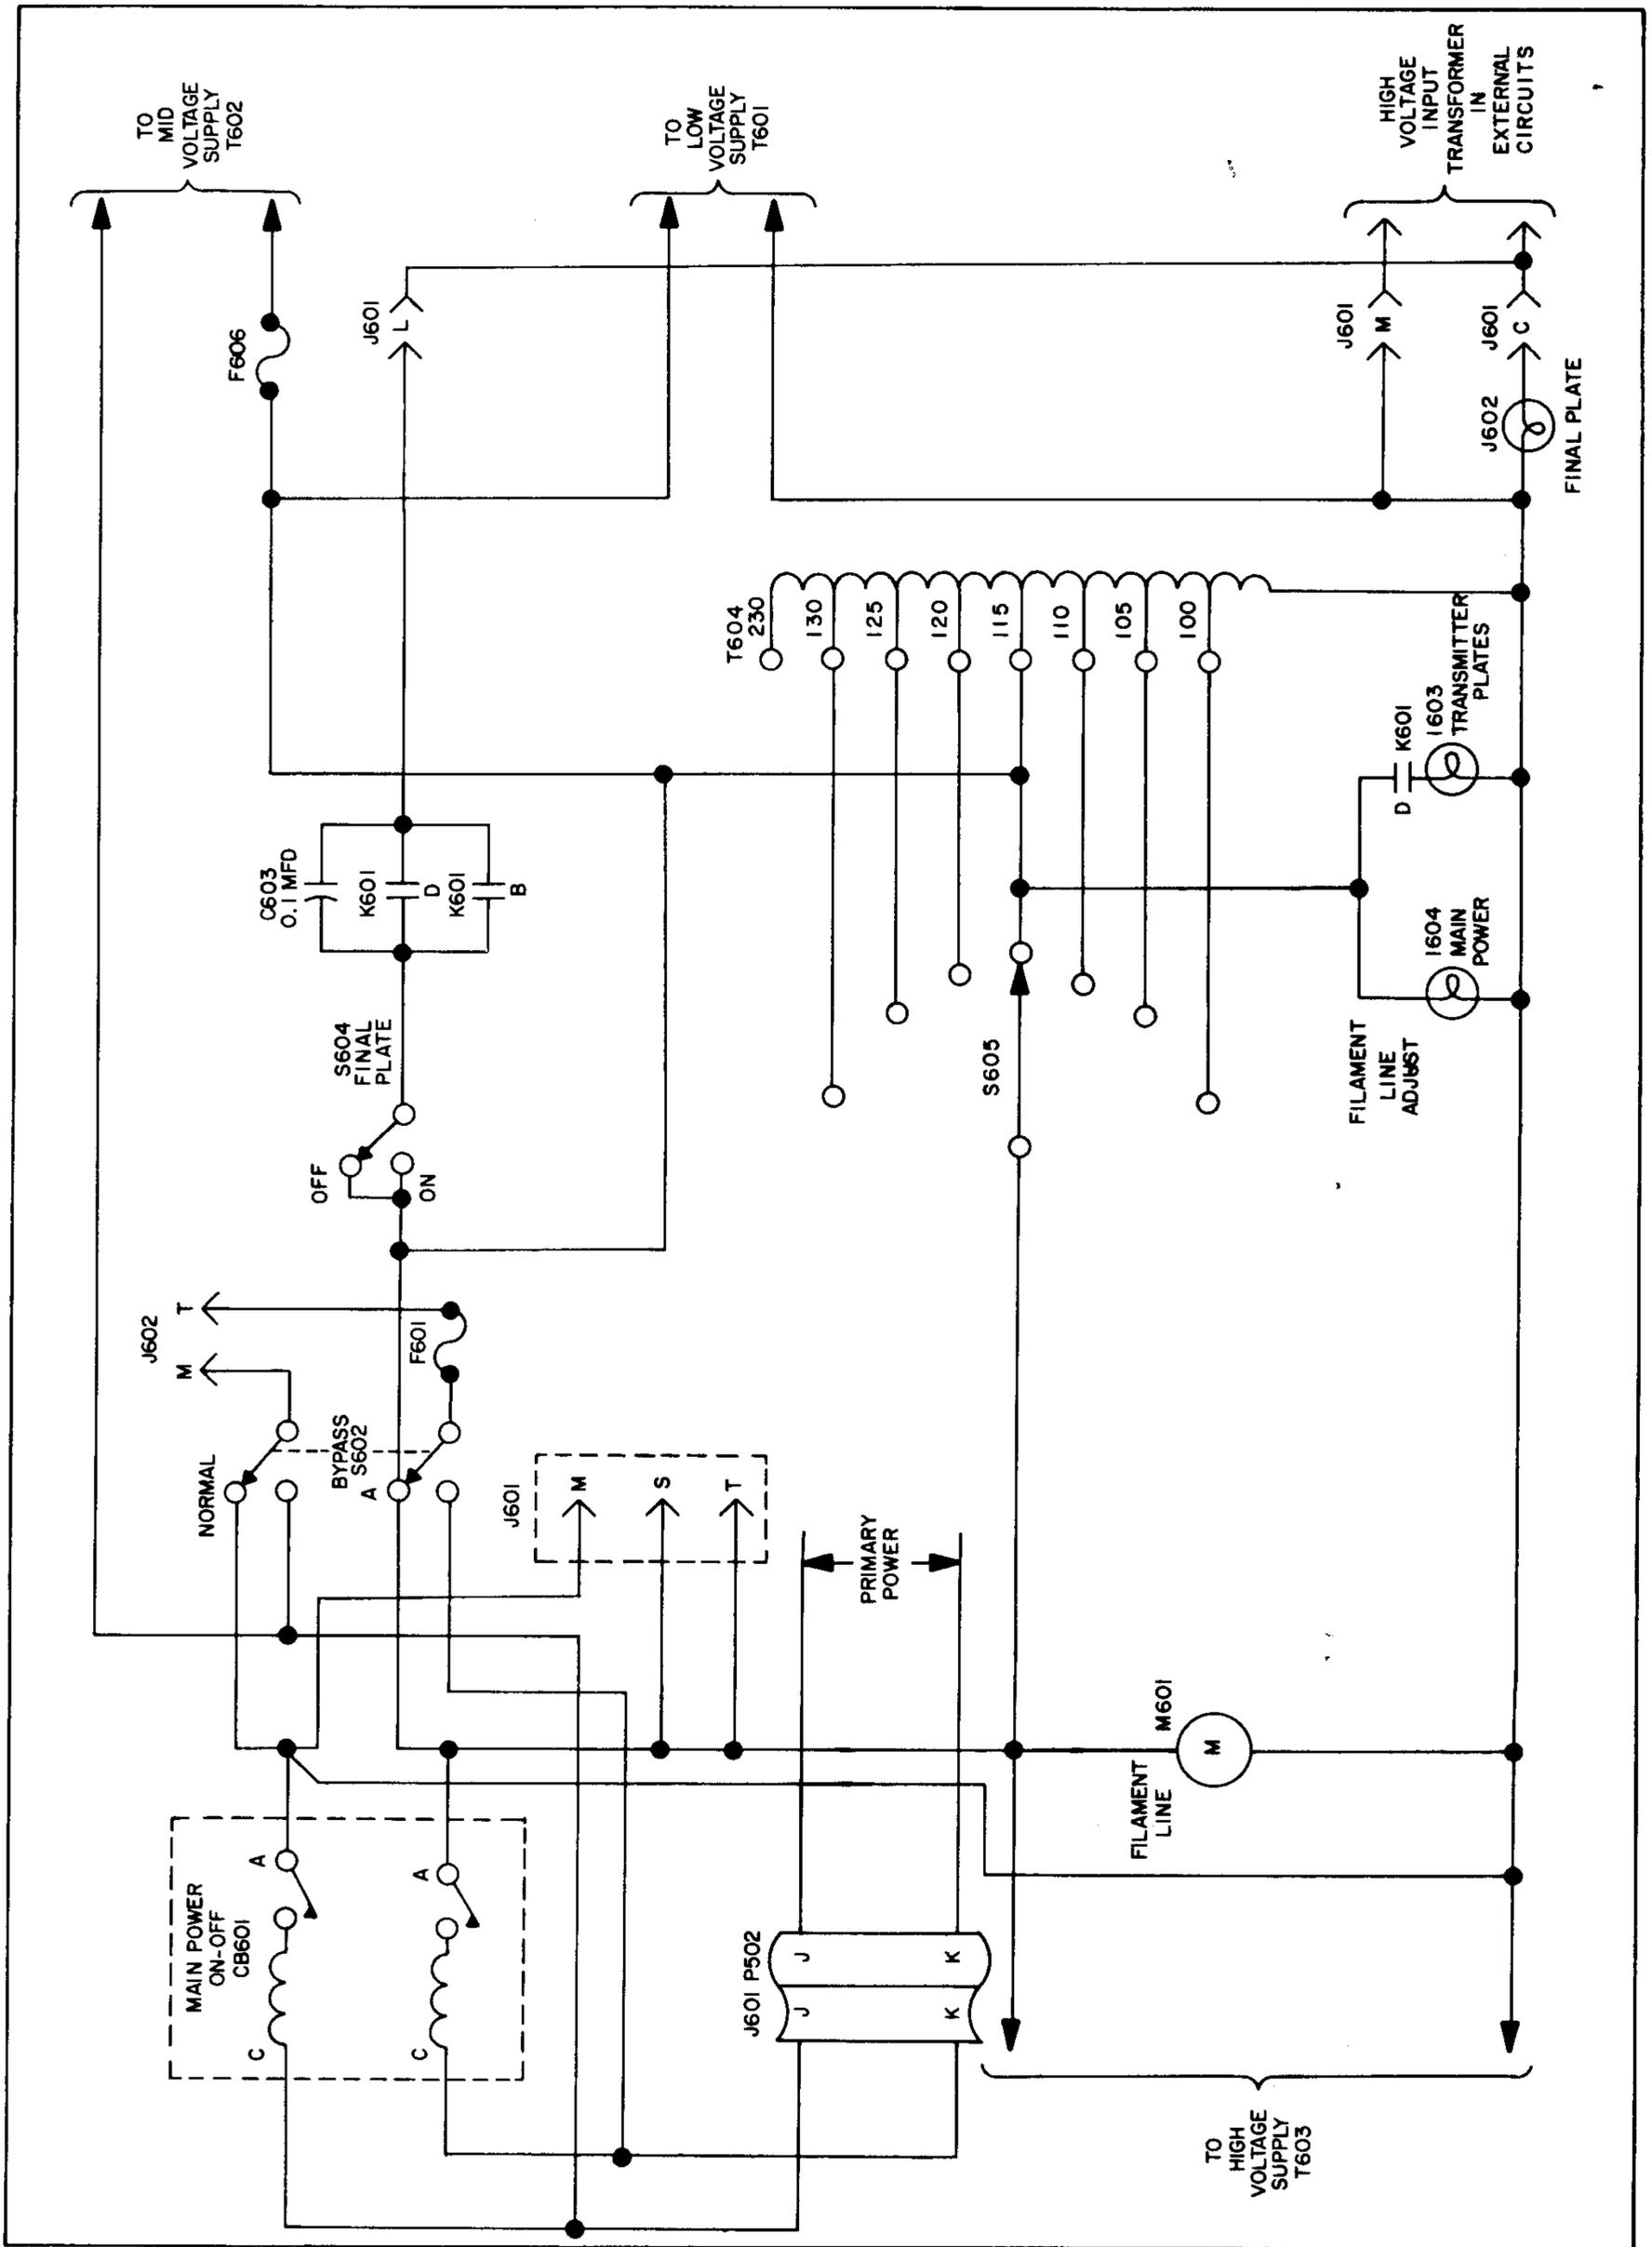

Figure 4-12. 115-Volt Line Distribution, Simplified Schematic Diagram
(1) **PRIMARY POWER CIRCUITS.** - The 115-volt ac line voltage to the RTP-2 unit is applied between pins J and K of plug J601. (See figure 4-12.) Line protection is provided by the MAIN POWER breaker.